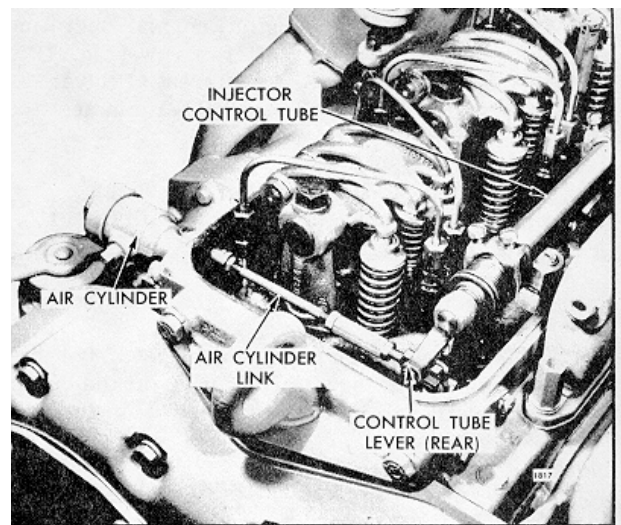

Fig. 9 Air Cylinder Used with Limiting Speed Governor
- 2 Loosen the lock nuts on the air cylinder fuel shut-off rod (Fig 9) and lengthen the rod by turning the turnbuckle until the end of the slot contacts the pin in the end of the control tube shut-off lever. Then shorten the rod one complete turn of the turnbuckle and tighten the lock nuts.